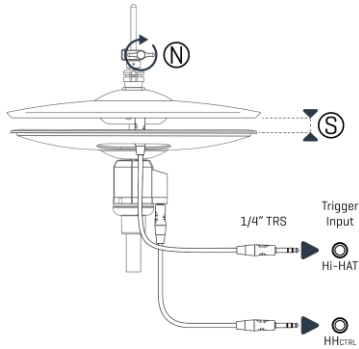

Figure 5
- 1 Lift the top cymbal gradually, until the carriage of the Hi-Hat Controller (O) stops following the movement.
- 2 In this position, fasten the Clutch wing screw (N) as shown in *Figure 5*.